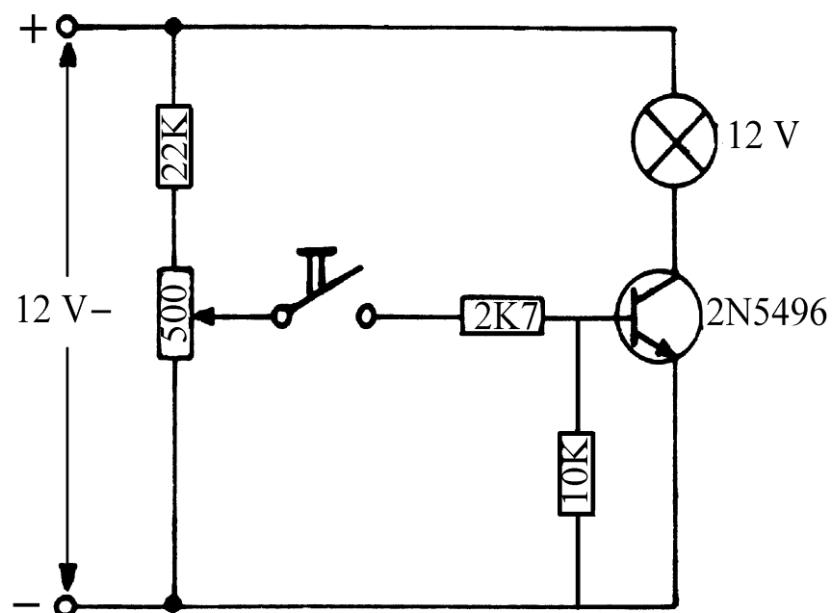

Figure 8
- Construct and test the circuit as shown in Fig. 8 on the next page.